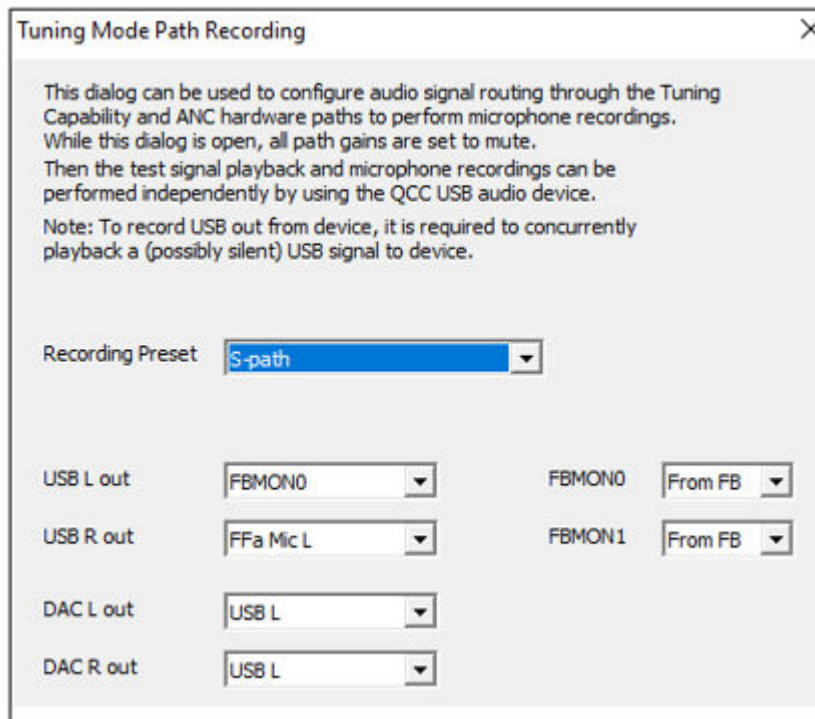

Figure 9-12 Selecting S-path in Tuning mode Path Recording dialog
2. In **Recording Preset**, select **S-path** or **E-path**, see Figure 9-12.